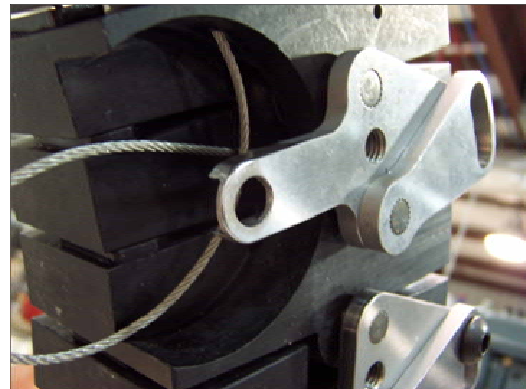

Figure 141 - View of Twist in Cable
7. View of spine with damper removed. Note overlap of cable. The direction shown is required for proper operation Figure 141.